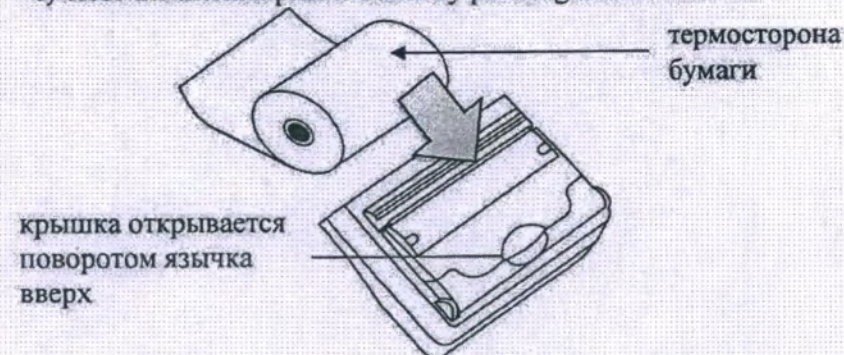

Figure 29 – Appearance of the paper compartment cover of a thermal printer
b) insert a new roll of thermal paper, positioning the roll as shown in Figure 29;